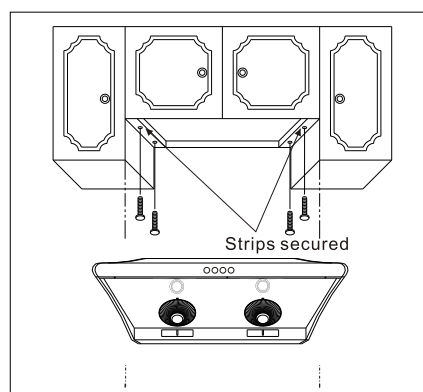

Fig.7
- c. Position the strips on the cabinet bottom and screw the strips securely to the cabinet (Fig.7)
- a. The four keyhole mounting slots for the hood. Mark these onto the bottom of the cabinet; or, if the cabinet bottom is recessed. Onto the wood strips (Fig.7)
- Screw the four 1" wood screws (for mounting the hood) into the exact center of the arrow and of the keyhole mounting slots marked on the cabinet bottom (for flush installations), or marked on the 1"x2" wood strips (for recessed cabinet installation) (Fig.7)